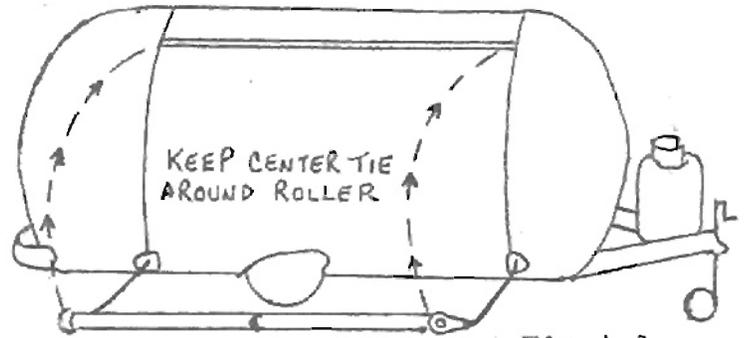

Fig.4-1
- A. Attach awning assembly to main arms as shown in Fig.4-1.